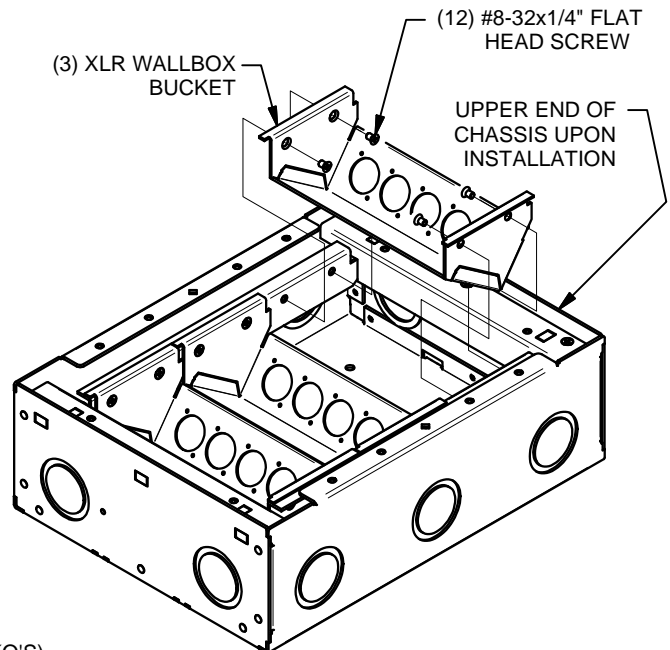

FIGURE 11
5. INSTALL XLR WALLBOX BUCKETS AS SHOWN IN FIGURE 11.